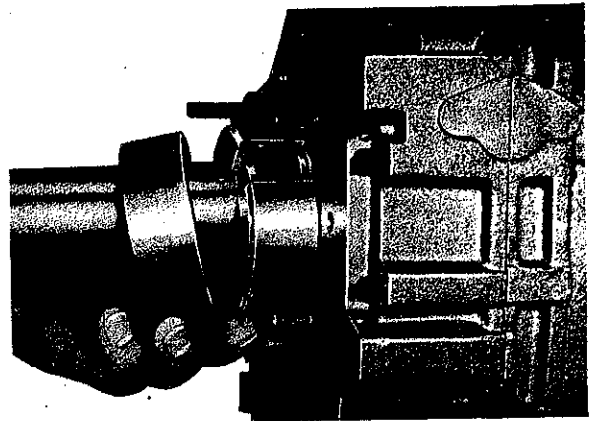

Fig. 9
6.3 Snap circlip (206) out of ball bearing groove and pull out tapered ball bearing (207) with puller .4. and .5. (Fig. 9).